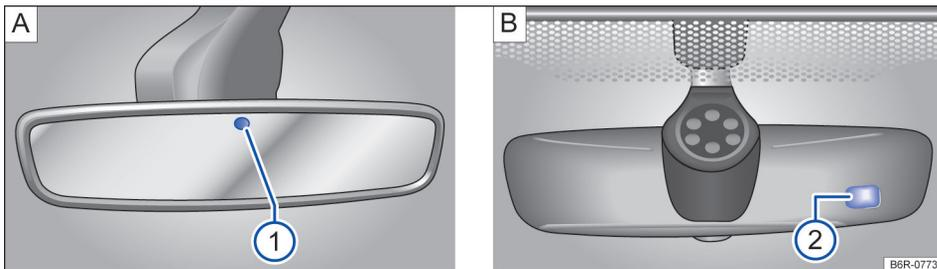

Fig. 84 On the windshield: Self-dimming rearview mirror (design may vary depending on vehicle equipment).
When the ignition is switched on, the sensors on the mirror measure the amount of light shining into the vehicle from the rear → fig. 84 ① and from the front → fig. 84 ② of the vehicle.